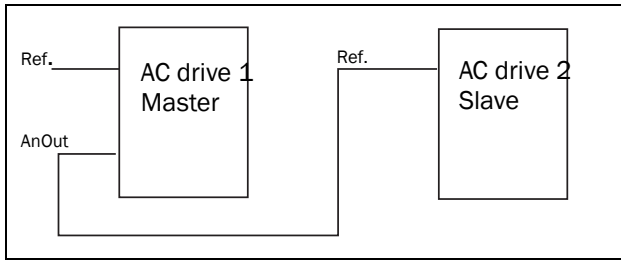

Fig. 109
- a reference signal for the next AC drive in a Master/Slave configuration (see Fig. 109).